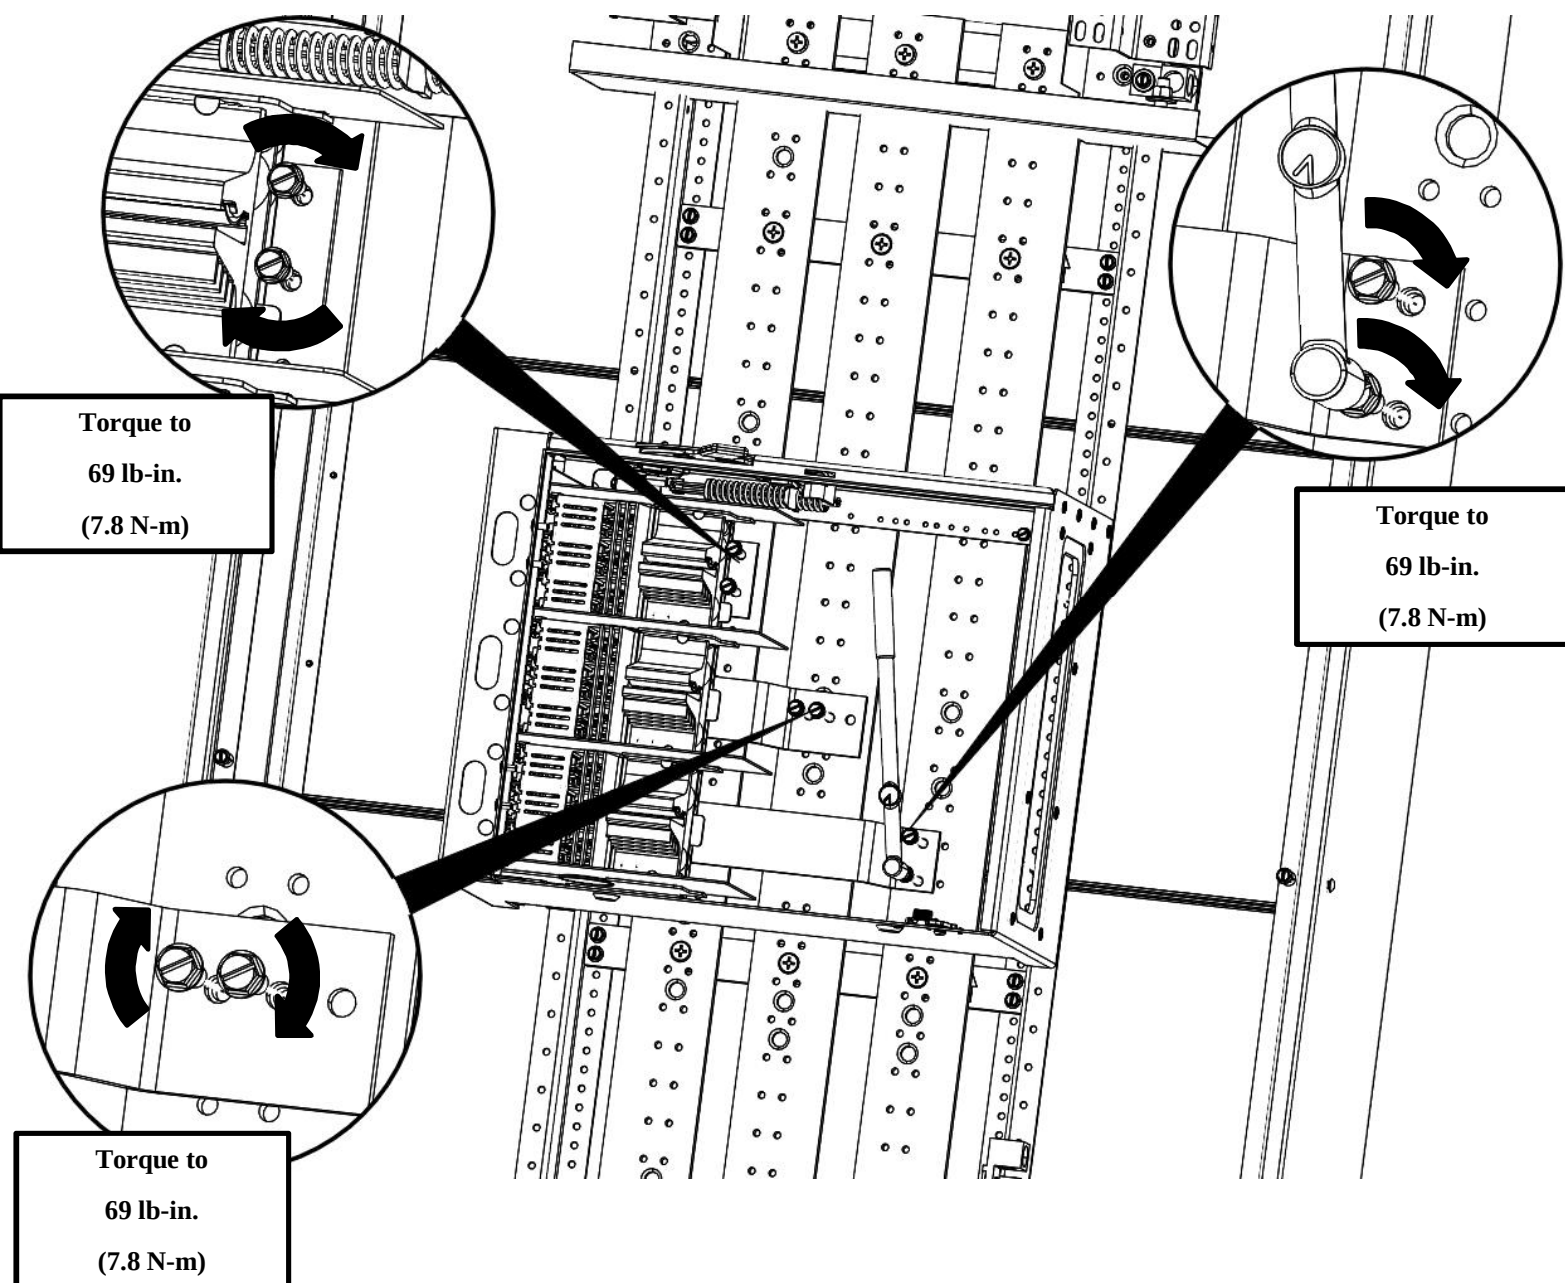

Figure 13
13. Install 2 screws into each of the connecting straps (see torque) as shown in Fig. 13.